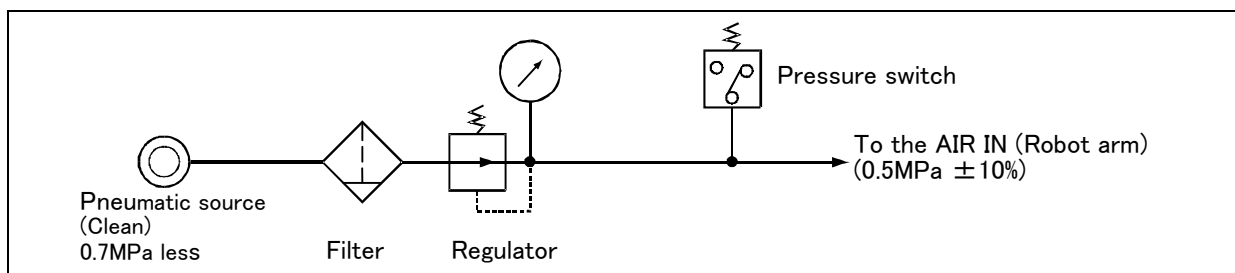

Fig.2-84 : Air supply circuit example for the hand
- 2) When the factory pneumatic pressure drops, as a result of the hand clamp strength weakening, there can be damage to the work. To prevent it, install a pressure switch to the source of the air as shown in Fig. 2-84 and use the circuit described so that the robot stops when pressure drops. Use a hand with a spring-pressure clamp, or a mechanical lock-type hand, that can be used in cases where the pressure switch becomes damaged.